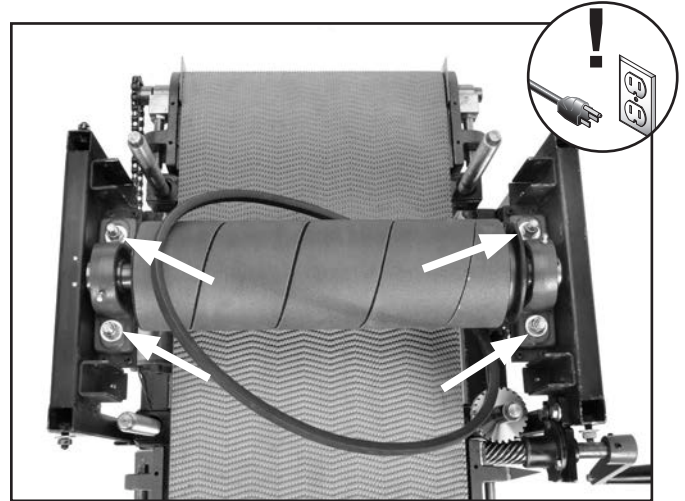

Figure 44. Location to remove sanding drum components.
- Remove the sanding drum (4 lock nuts and 4 flat washers) and V-belt (**Figure 44**).